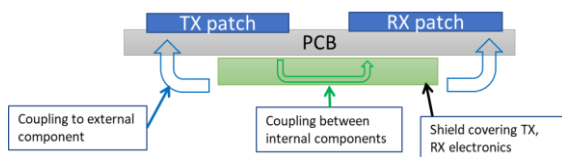

Figure 1: Block diagram
Figure 1 provides a block diagram of a typical system consisting out of 2 patch antennas situated on one side of the PCB, and the Transmit (TX) and Receiver (RX) electronic components sitting on the opposite side.